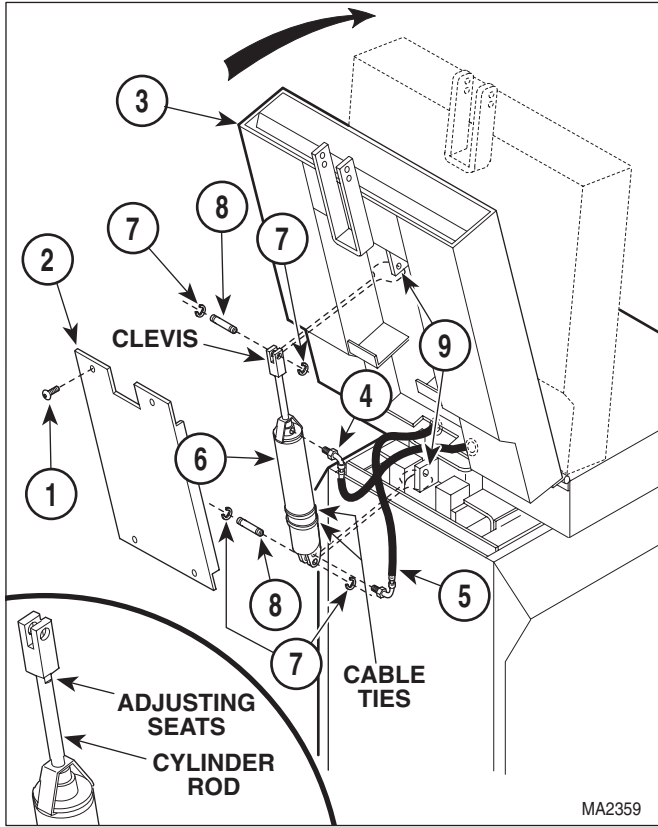

Figure 4-13. Back Cylinder Removal / Installation
- (9) Pull back cylinder wires (4) out thru wire hole.
- (10) Remove four screws (1, Figure 4-13) and back cover (2) from back weldment (3).
- (11) Cut two cable ties which are securing hose assemblies (4 and 5) to back cylinder (6).
- (12) While supporting back weldment (3), remove four E-rings (7), two clevis pins (8), and partially separate back cylinder (6) from cylinder brackets (9). Fold back section over onto seat section.
- (13) Tag hose assemblies (4 and 5).
- (14) Disconnect hose assembly (4) from back cylinder (6).
- (1) Connect hose assembly (5, Figure 4-13) to back cylinder (6).
- (2) Connect hose assembly (4) to back cylinder (6).
- (3) Install back cylinder (6) on cylinder brackets (9) and secure with two clevis pins (8) and four E-rings (7).
- (4) Secure hose assemblies (4 and 5) to back cylinder (6) with two cable ties.